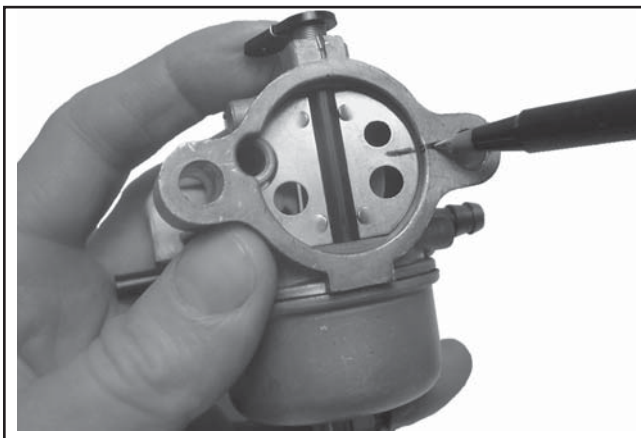

Figure 5-7. Marking Choke Plate and Carburetor Body.
1. Because the edges of the choke plate are beveled, mark the choke plate and carburetor body, to ensure correct reassembly. See Figure 5-7.